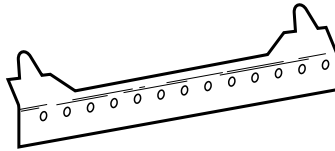

**Figure 5 - Attaching Thermostat Sensing Bulb**
2. Place clamp on thermostat sensing bulb as shown in Figure 5. Clamp is provided in hardware package.
3. Snap clamp into upper mounting hole as shown in Figure 5. Mounting hole is located on lower left edge on back of heater. Make sure the thermostat sensing bulb is pointing up.